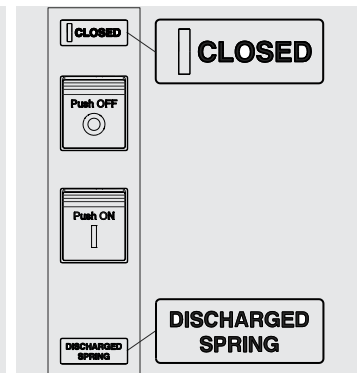

Figure 83
3. Circuit-breaker closed with springs discharged (see Figure 83).